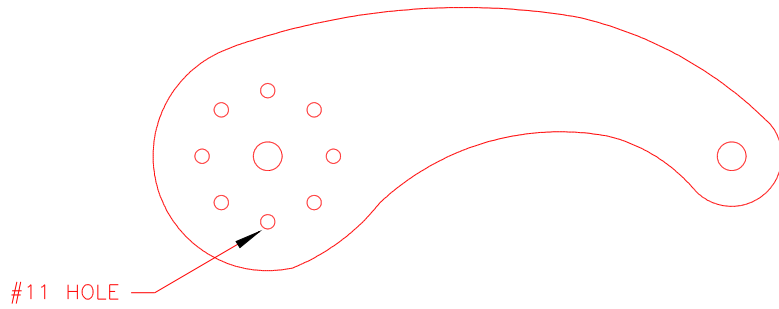

Figure 10.14.6
- 14) Drill eight #11 holes through control horn into the end plug. Figure 10.14.6.